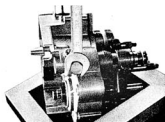

Fig. 4-15-5
- 2) Remove the neutral stopper mechanism. (Figs. 4-15-5 and 6)